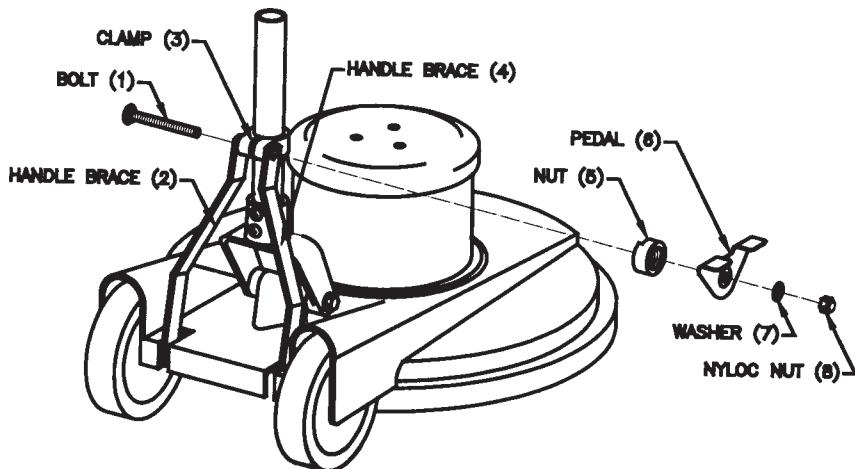

Figure 1
1. Insert the carriage bolt (1) through the left handle brace (2), handle clamp (3), and right handle brace (4). The square neck on the carriage bolt should insert into the slot in the left handle brace (2). (See figure 1).
2. The release nut (5) and release pedal (6) come pre-assembled and bound together with a plastic band. Remove the plastic band and do not turn the nut on the pedal.
3. Install the pedal assembly over the end of the carriage bolt (1). The notch in the release nut (5) should fit over the right handle brace (4).